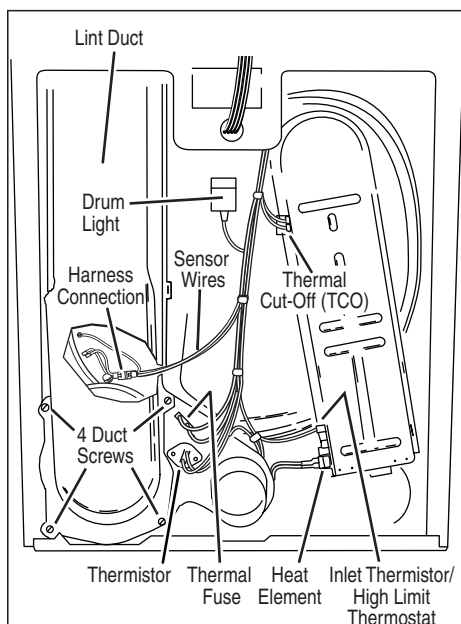

Figure 9. Thermal components, viewed from rear.
Locate the components using figure 2, page 4; and figure 9, below.
- Check wire connections at the machine control electronics and thermistor. See Accessing & Removing the Electronic Assemblies, page 9; and for thermistor location, figure 9.
- Check wire connections at the machine control electronics and inlet thermistor. See Accessing & Removing the Electronics Assemblies, page 9, and for inlet thermistor location see figure 9, page 6.
- Check the resistance of the inlet thermistor. See figure 9, page 6 for location.
- 2.** Access the thermal fuse by first removing the back panel. See Removing the Back Panel, page 10; and for thermal fuse location see figure 9, page 6.
- 3.** Using an ohmmeter, check the continuity across the thermal cut-off. See figure 9, page 6, for location.